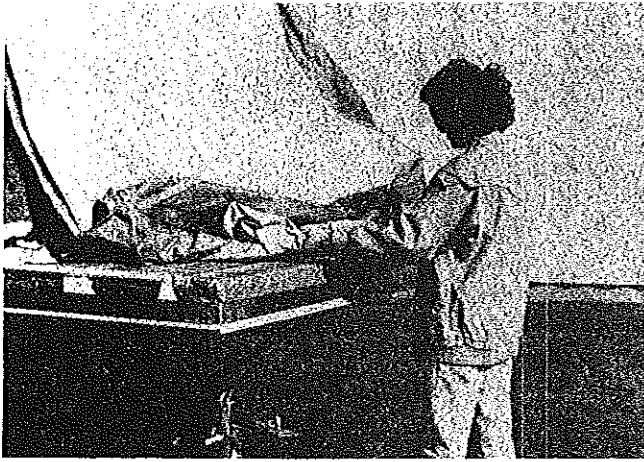
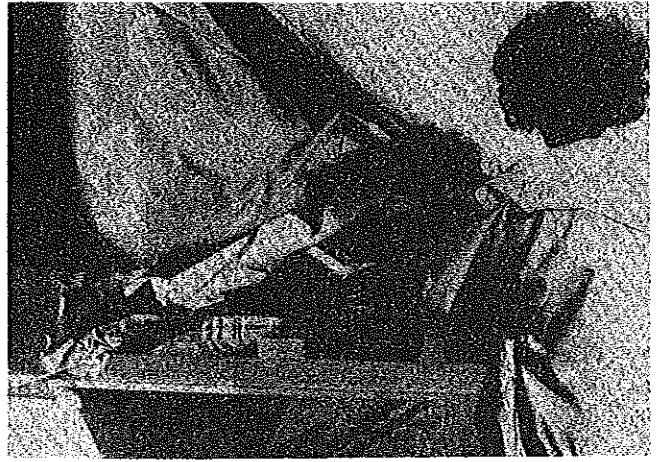

FIGURE 15
FIGURE 16
20. With both beds fully extended and supported, grasp the bottom edge of either the front or rear tent enclosure with hands approximately 2 1/2 feet apart and gently pull until the tent fabric is pulled out toward the end of the wing beds. See Figure 15. Standing at any side of the wing bed, reach in underneath of the tent fabric and grasp the side of the canvas bow and rotate toward the end of the bed. See Figure 16.